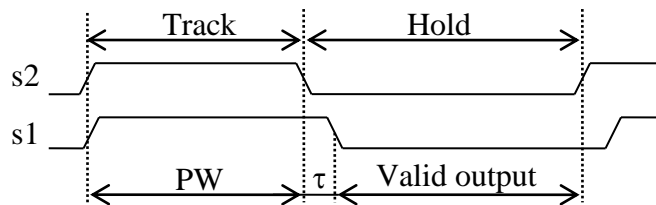

Fig. 3. Sampling Diagram
The input clock buffer converts the external clock `cp/cn` into two internal signals `s1` and `s2` with controlled pulse width (PW) and delay ( $\tau$ ) between them as shown in Fig. 3.